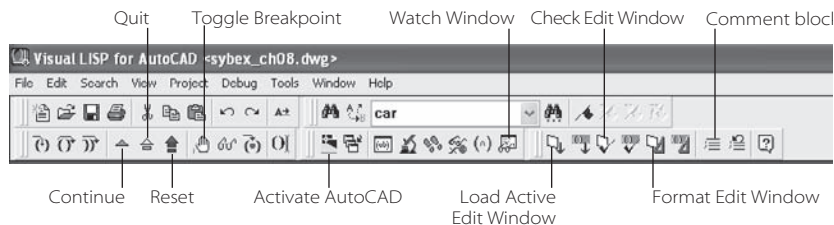

Figure 8.3
One more thing before you try your next AutoLISP text program. The tools I think you'll use most often are illustrated in Figure 8.3 on the Visual LISP toolbar. The Load Active Edit Window, Check Edit Window, and Format Edit Window tools apply to the
5. Pick the Load Active Edit Window button as shown in Figure 8.3.